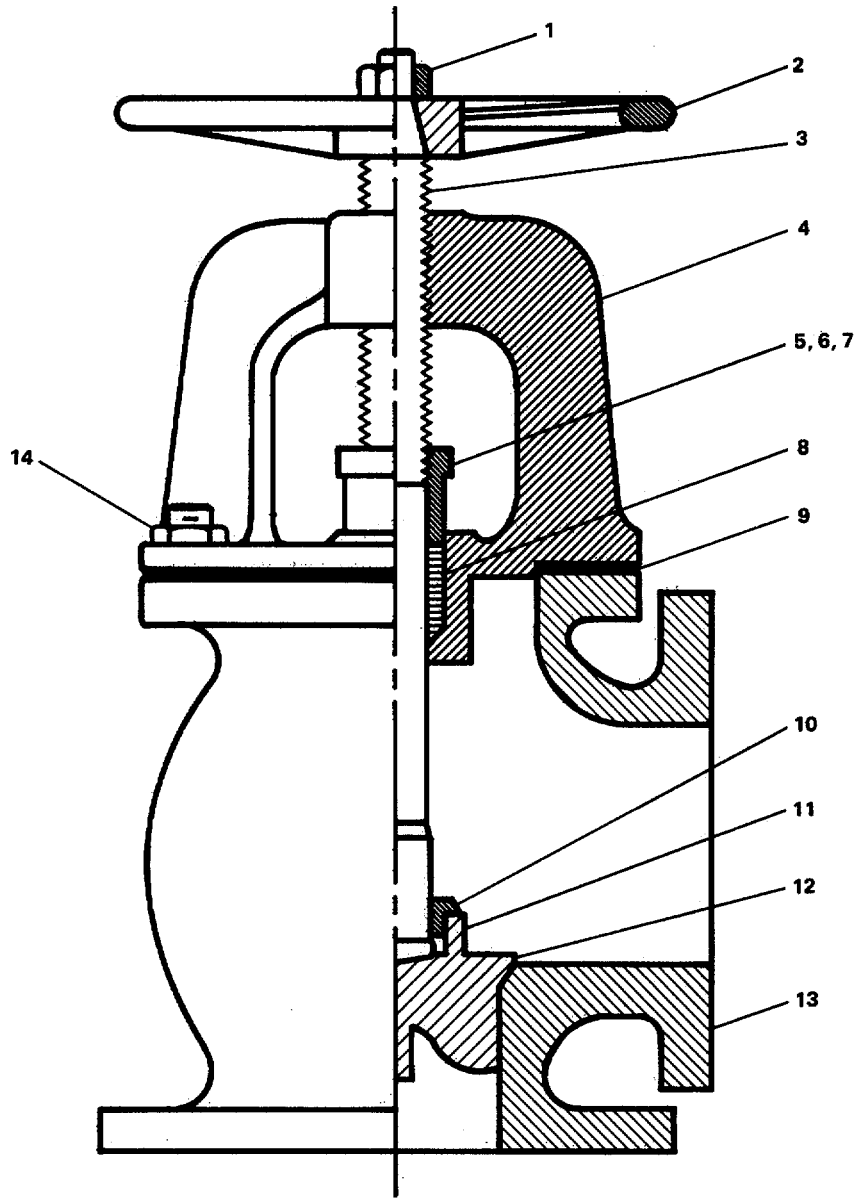

FIGURE 3-194. Stop Check Angle Valve. Repair.
**MAINTENANCE OF VALVES/STRAINERS****3-206. Repair 2-1/2 Check Angle Valve. (Figure 3-194)****This task covers:****a. Disassembly****b. Repair****c. Assembly****INITIAL SETUP:**Tools